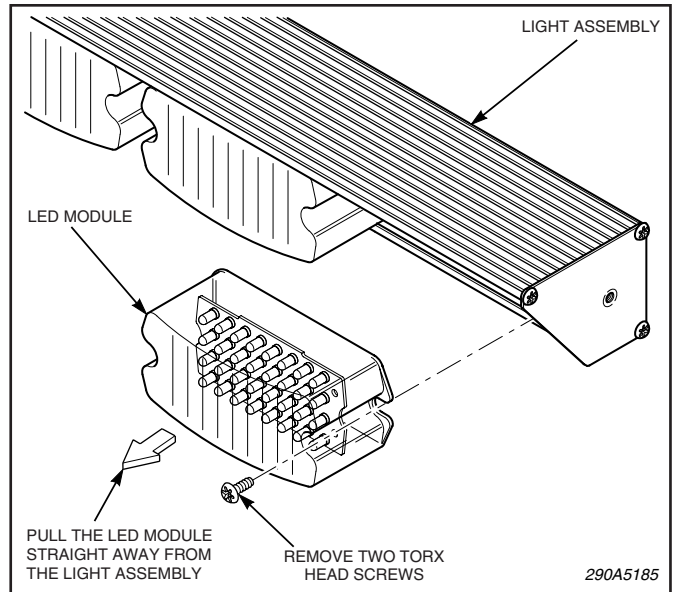

Figure 5.
1. See figure 5. Remove and retain the two screws which secure the LED module assembly.